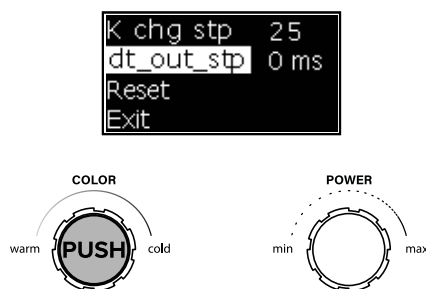

Fig. 46
1. Pressing on the left encoder displays the menu to select the values of parameter **dt\_out\_stp** (Fig.46).